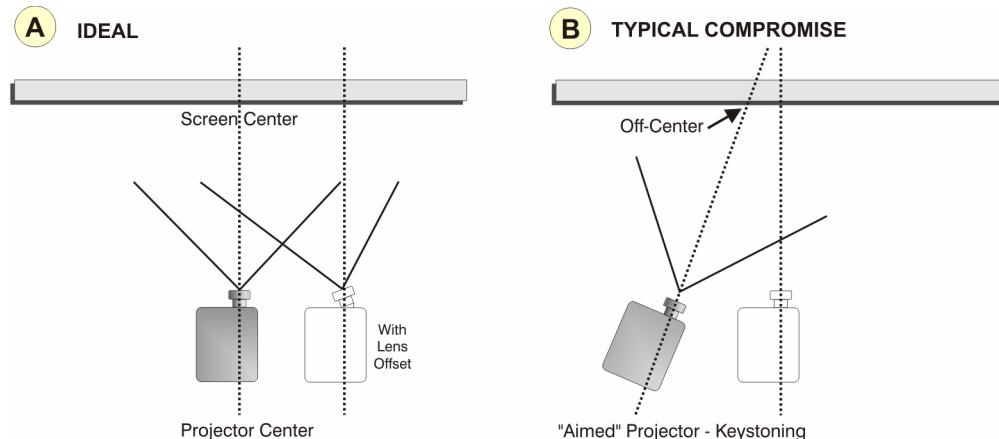

FIGURE 3-1 POSITION THE PROJECTOR
1. Ensure the projector at an appropriate throw distance (projector-to-screen distance) and vertical position. Ideally, center the projector with the theatre screen. If competing for space with an already present film projector, aim the projector slightly off-center (**Figure 3-1**). This slightly increases side keystoning, but minimizes the horizontal lens offset required. **NOTE:** Unlike film projectors, it is best to keep the projector as parallel to the screen as possible, even if significantly above the screen center. When a short throw distance combines with a very wide screen you may have to forfeit some aim and stay more parallel to the screen. Use of lens offset can allow for an undistorted image if the projector is perpendicular to the screen.